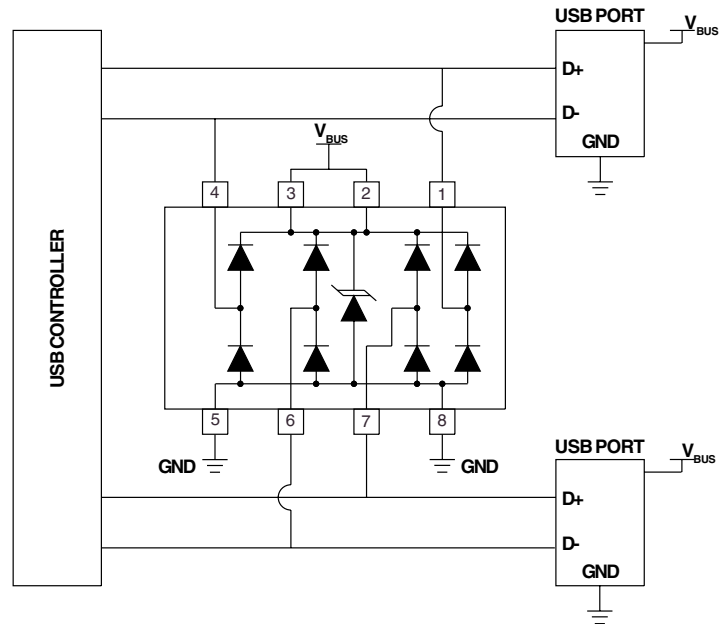

Figure 1. Typical Differential-Mode USB Protection
### DIFFERENTIAL MODE CONFIGURATION (Figure 1)
Ideal for use in USB applications, the PSRDAxx-4 Series provides up to four (4) lines of protection in a differential mode configuration as depicted in Figure 1.